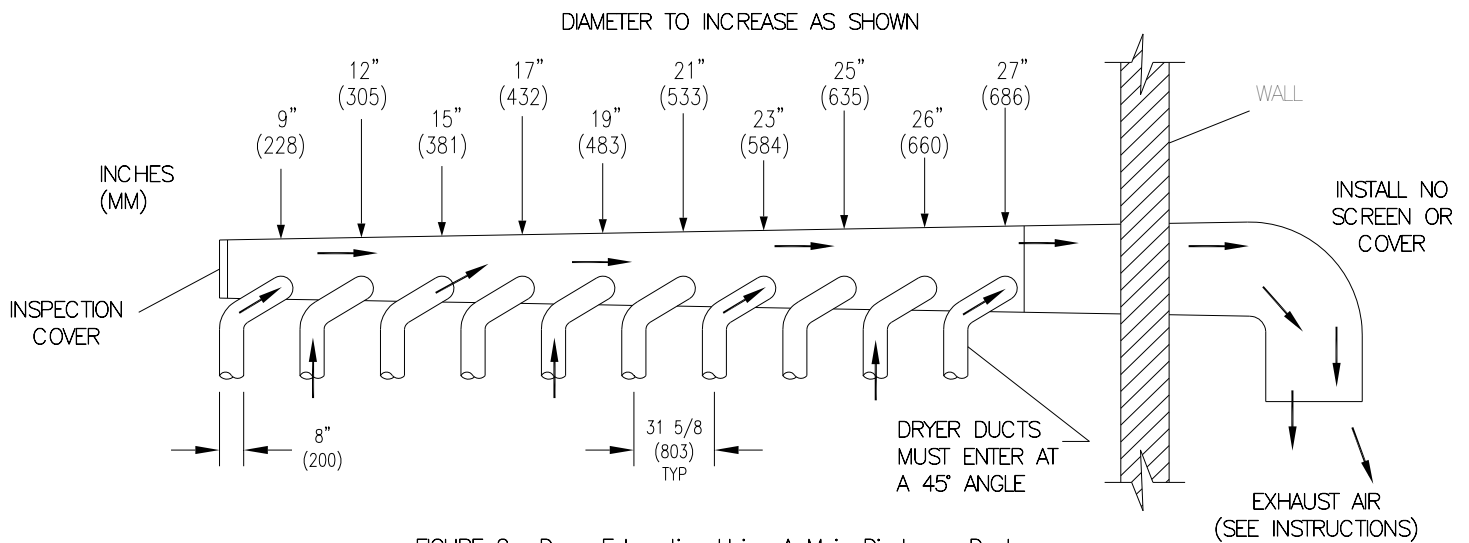

FIGURE 2— Dryer Exhausting Using A Main Discharge Duct.
6. EXHAUST INSTALLATION. (Refer to Figure 2 at the end of section 6.) Exhausting of the dryer(s) should be planned and constructed so that no air restrictions occur. Any restriction due to pipe size or type of installation can cause slow drying time, excessive heat, and lint in the room.
Installation of several dryers, where a main discharge duct is necessary, will need the following considerations for installation (see Figure 2). Individual ducts from the dryers into the main discharge duct should be at a 45-degree angle in the direction of discharge airflow.
NOTE: Never install the individual ducts at a right angle into the main discharge duct. The individual ducts from the dryers can enter at the sides or bottom of the main discharge duct. Figure 2 indicates the various round main duct diameters to use with the individual dryer ducts. The main duct can be rectangular or round, provided adequate airflow is maintained. For each individual dryer, the total exhausting (main discharge duct plus duct outlet from the dryer) should not exceed the equivalent of 20' (6 m) and two elbows. The diameter of the main discharge duct, at the last dryer, must be maintained to exhaust end.